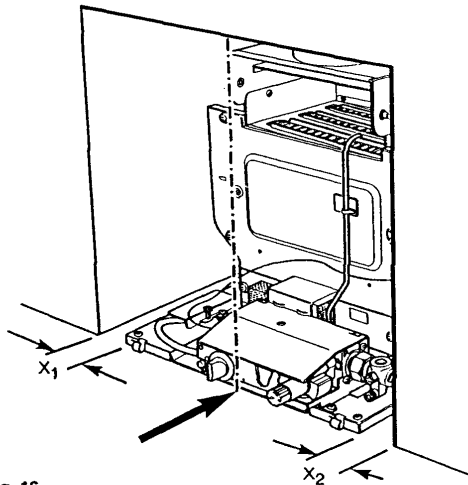

Fig. 16
4. Locate the centre line of the finished opening and hearth (Fig. 16).
6. Align the boiler centrally using the "V" mark on the front centre of the appliance base. Check the distance between each side of the base and opening. They should be equal (Fig. 16).